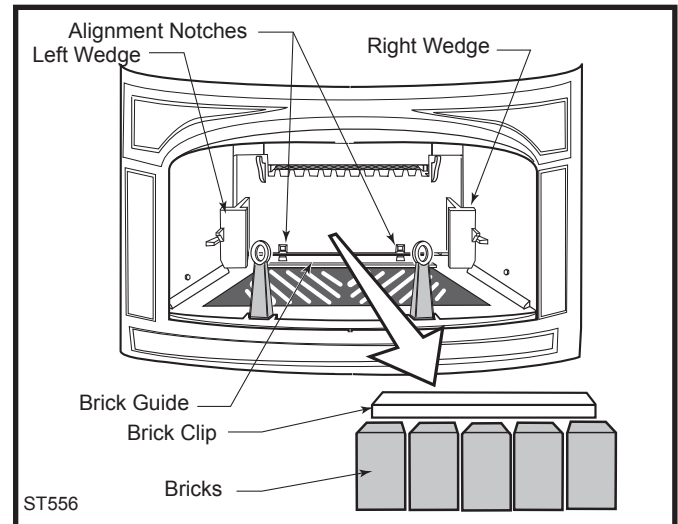
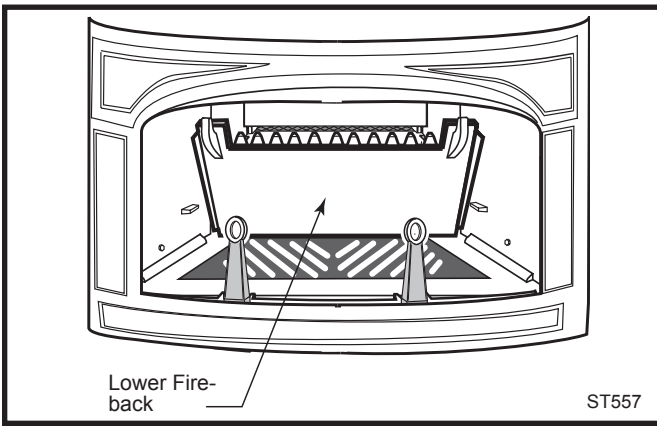

Fig. 7 Remove the bricks and brick retainer.
Fig. 8 Remove the lower fireback.
5. Remove the firebricks. Lift off the steel clip and remove the firebricks individually. (Fig. 7)
6. Tap the left and right wedges upward with a rubber mallet or a hammer and block of wood to protect the cast iron. (Fig. 7) Remove the wedges and remove the lower fireback by pulling its top edge toward yourself. (Fig. 8) Lift the lower fireback out of the firebox and set it on a shielded surface.
15. Stand the five firebricks on end in front of the lower fireback. Note that these stand behind a raised rib on the firebox floor. (Fig. 7) Join the firebricks by slipping the steel clip onto their top ends. The clip's longer edge should go behind the firebricks, for easier installation.